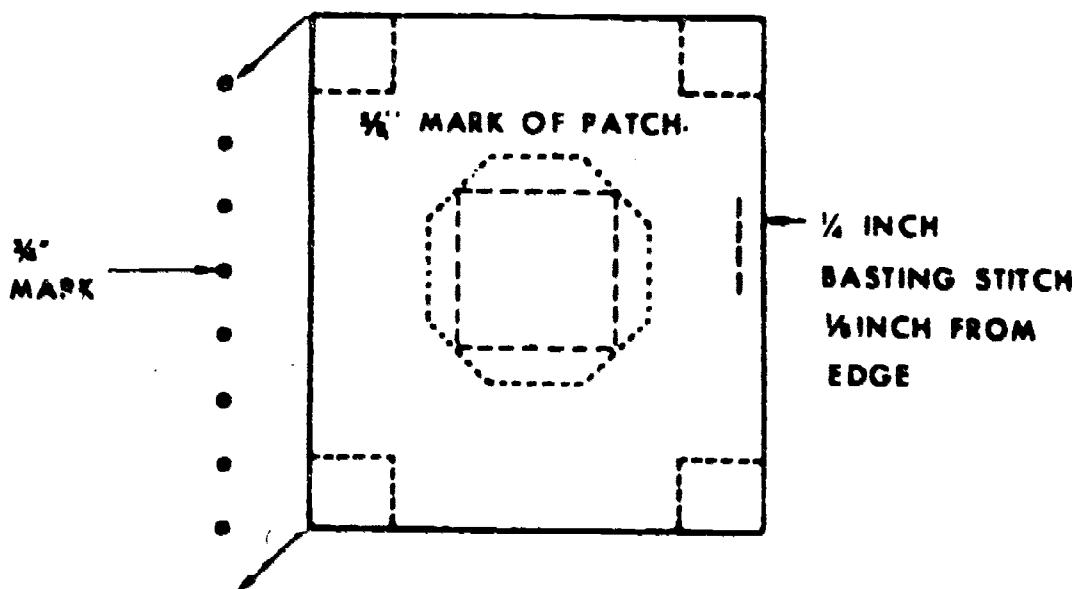

Figure 8. Step Six.
10. Fold under the other three (3) sides of the patch material, forming neat, square corners, as indicated in Figure 8. (The eye end of a sewing needle may be used to form corners).